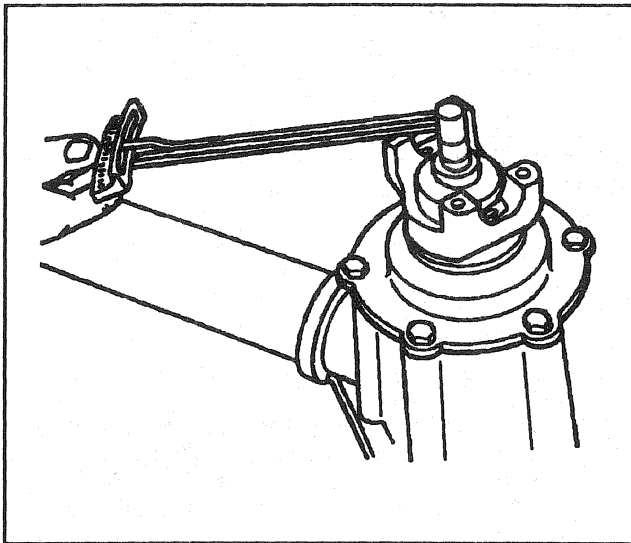

Figure 24—Checking Pinion Preload
- B. Remove J 8614-01. Using an inch pound torque wrench, check the pinion preload by rotating the pinion with the wrench (Figure 24). Preload should be at or below 4 N.m (35 lb in) on new bearings, or 1.2 N.m (10 lb in) for used bearings.